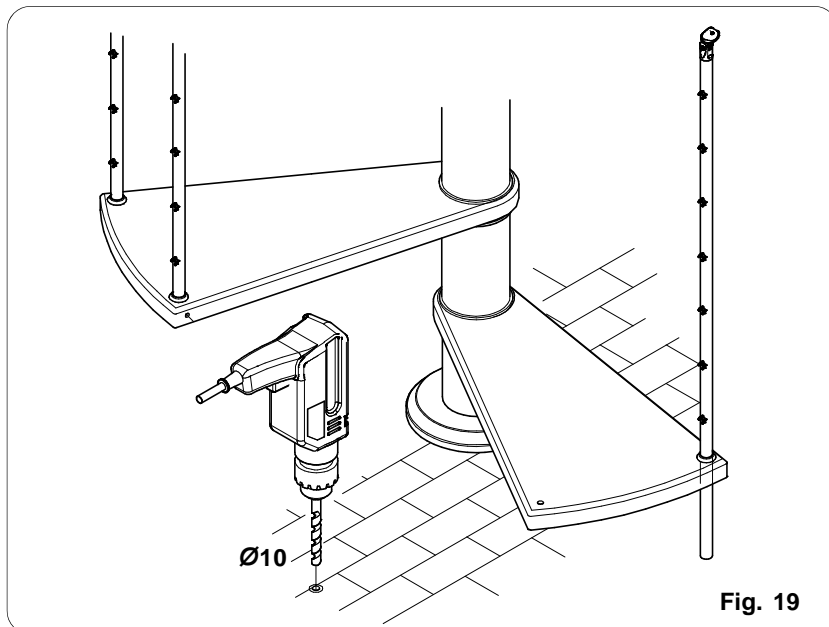

Fig. 19
- To easily drill the point marked before, unscrew the column anchoring screw passing under the first step, so as to free it. (fig. 19)
Move the step (by turning it) so that it does not become an obstacle, then drill the floor by means of a $\varnothing 10$ drill (fig. 19)